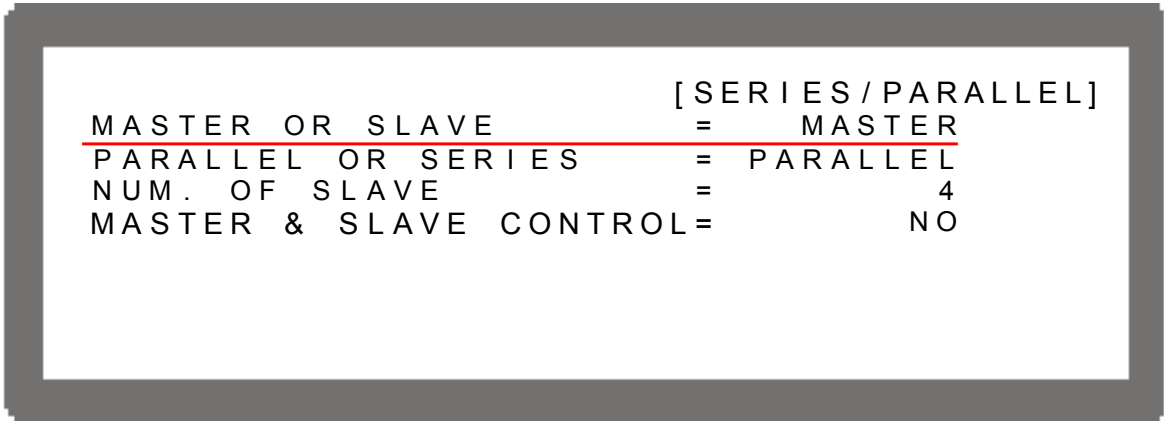

Figure 3-38
2. Use the numeric (0) key or “Rotary” (⦿) knob to set MASTER as Figure 3-38 shows.